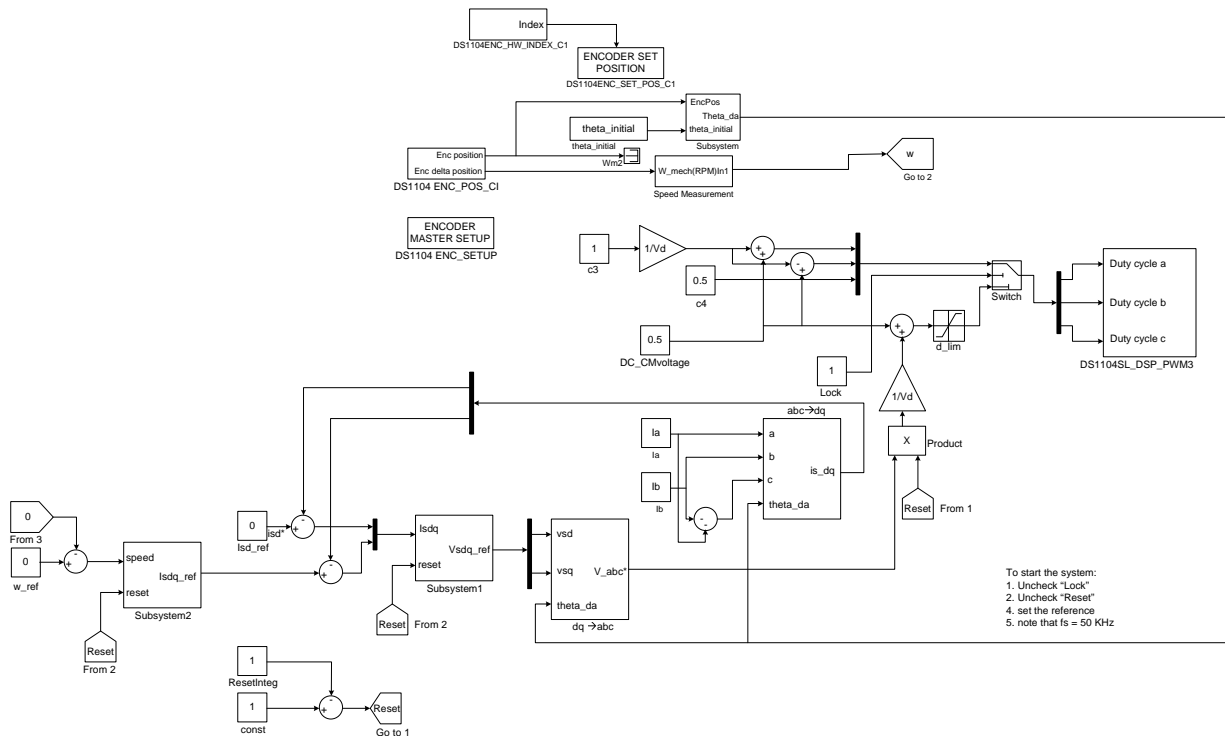

Figure 7.8: Simulation Model
2. Open the file **PMAC_current.mdl**. Enter the values for K_p_i , K_i_i , K_p_w , K_i_w , $\theta_{initial}$ $V_d=42$, $poles=4$ and $T_s=1e-4$ at the MATLAB command prompt. The model is shown in Fig 7.8.
The model is shown in Fig 7.8. In this model, the speed of PMAC can be controlled. The error between the measured speed and actual speed is passed through a controller. This controller generates a reference value for i_{sq} . The PI controller for speed is designed with a cut-off frequency of 10Hz, which is much slower than the current control loop.